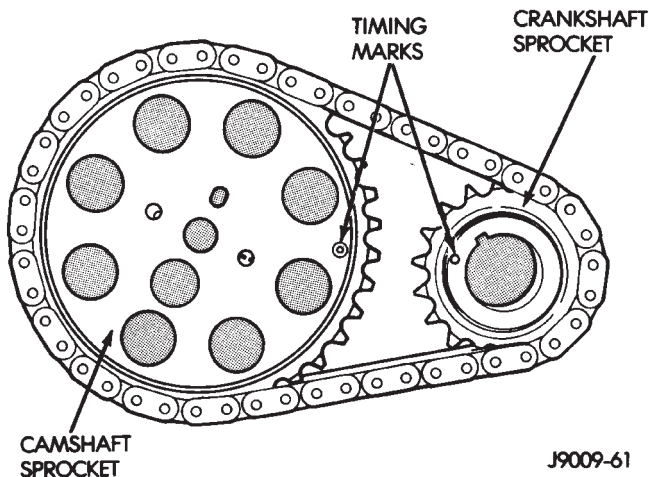

Fig. 11 Timing Chain Alignment
- (7) Remove the serpentine drive belt.
- (8) Remove the crankshaft vibration damper.
- (9) Remove the timing case cover. Clean the gasket material from the cover.
- (10) Remove the thrust pin and tension spring from the preload bolt head.
- (11) Rotate crankshaft until the crankshaft sprocket timing mark is closest to and on the center line with the camshaft sprocket timing mark (Fig. 11).
- (1) Clean the camshaft pin hole.
- (2) Compress the center of the replacement spring pin with vise grips.
- (3) Carefully drive the pin into the camshaft pin hole until it is seated.
- (4) Install the camshaft sprocket, crankshaft sprocket and timing chain with the timing marks aligned (Fig. 11).